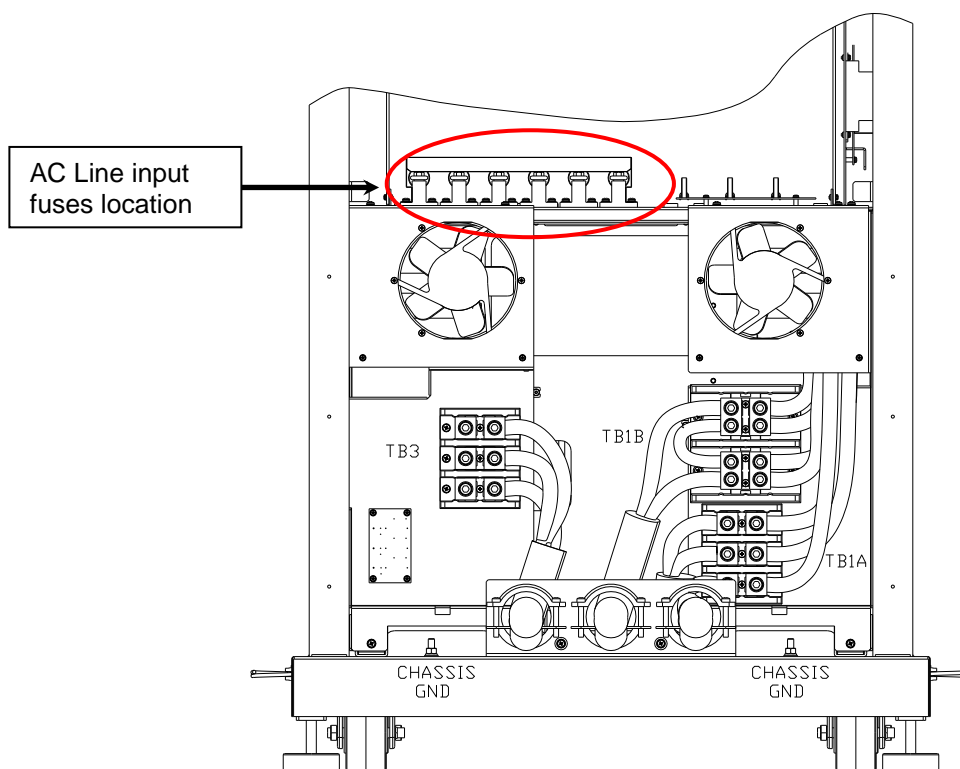

Figure 3-2: Location of AC Input Connection Block (TB3) and Chassis Ground Connection
**CAUTION:** *Always disconnect any input power completely when removing any protective cover and allow the internal capacitors to fully discharge (minimum of 15 mins) before removing any cover.) See Figure 3-2 for details.*
It is important to understand the purpose and operation of the On/Off circuit breaker of the RS Series located on the lower left side of the front panel. This is a 2A rated breaker that is used to engage and protect the two LV Power supplies of the RS chassis only. The LV Power supplies provides DC bias power to the entire RS system. The AC input power is routed through a set of three AC line fuses (F1, F2 and F3) located in the lower rear left bottom corner of the RS. (See Figure 3-2 for fuse locations). These fuses protect the three RS amplifiers and the AC input transformer from excessive input currents. The AC input power is connected to the input transformer through a large three-pole contactor. Removing AC power to the LV Power Supply by opening the front panel circuit breaker (moving the lever to the down (OFF) position) will cause this contactor to loose its coil voltage and will result in it opening and disconnecting the input transformer and amplifier from AC mains input.
The output terminal blocks, TB1A and TB1B are located at the lower rear of the unit behind the bottom access panel. See Figure 3-2 for details.